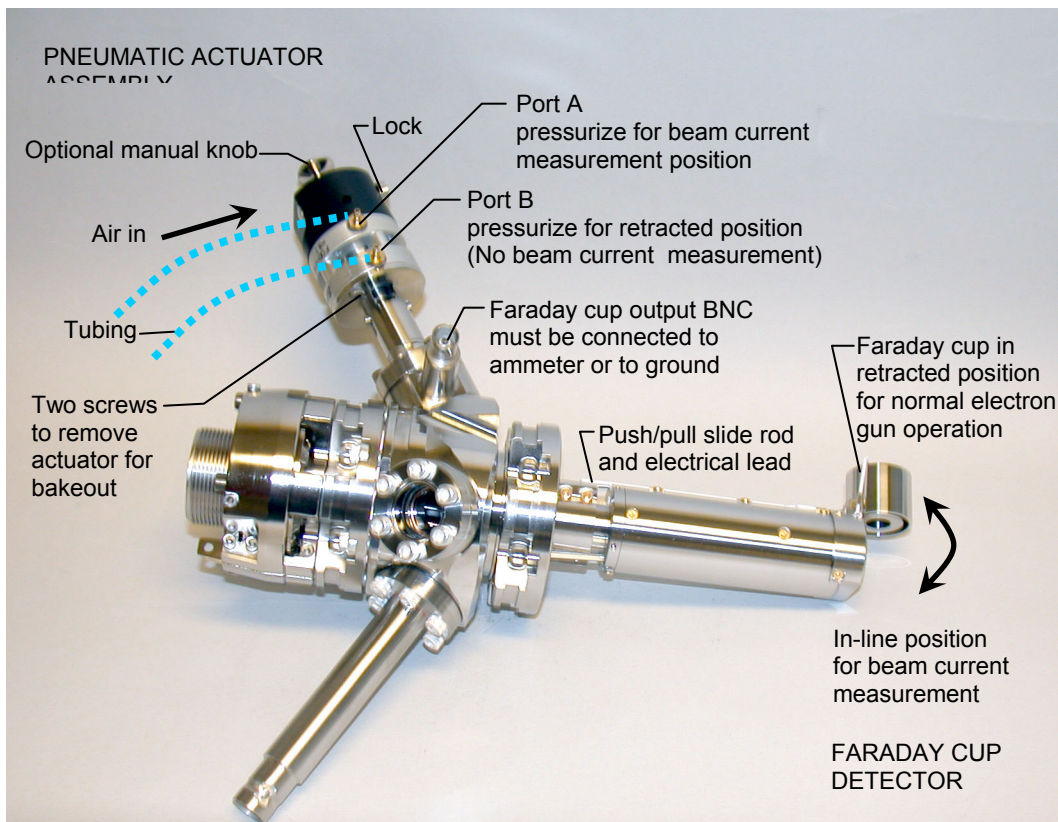

Fig. 4.8-1 Faraday Cup Assembly with Pneumatic Actuator
The Faraday cup assembly, mounted on the front end of the Electron Gun, is positioned by either a rotary feedthrough or a pneumatic actuator assembly, located on one of the 1½ inch (34 mm) conflat flanges on the Flange Multiplexer. The two types of gun-mounted Faraday cup are shown below in Figures 4.8.1 and 4.8.2. The Faraday cup assembly is UHV compatible, and can be heated to 350°C; however, the optional pneumatic cylinder and its external plastic tubing should be removed for bakeout. Some guns which were purchased without a Faraday cup can be modified for the addition of a Faraday cup assembly at the factory.
- a. Apply air pressure to Port "A" and vent Port "B" to position the Faraday cup in the measuring position (in-line position); see Fig 4.8.1